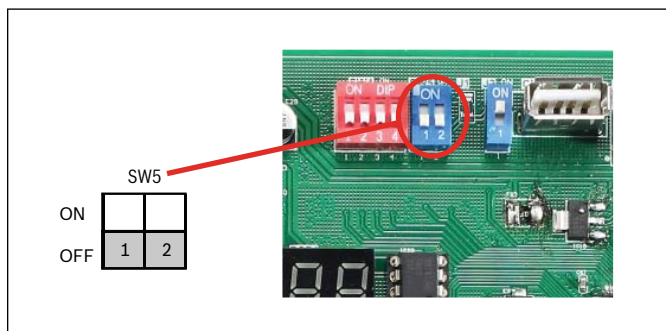

Figure 44
- ▶ To display system parameters, press the “Check” button to index through the series of parameters available. The first time you press the “Check” button, it will display the sequence, and after 1 second it will display the value of the parameter. If you press the “Check” button again, it will display the next sequence. Refer to Figure 44 and 45 for check button location on the control board.